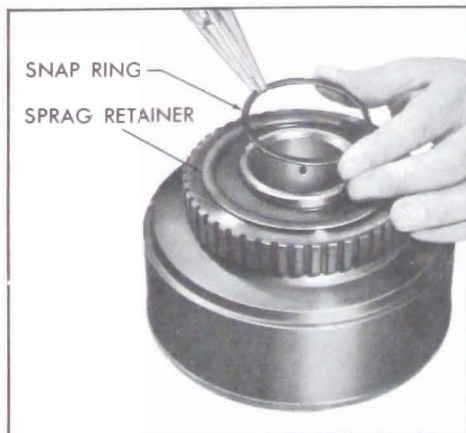

Figure 5-656
15. Install sprag retainer and snap ring. See Figure 5-656.